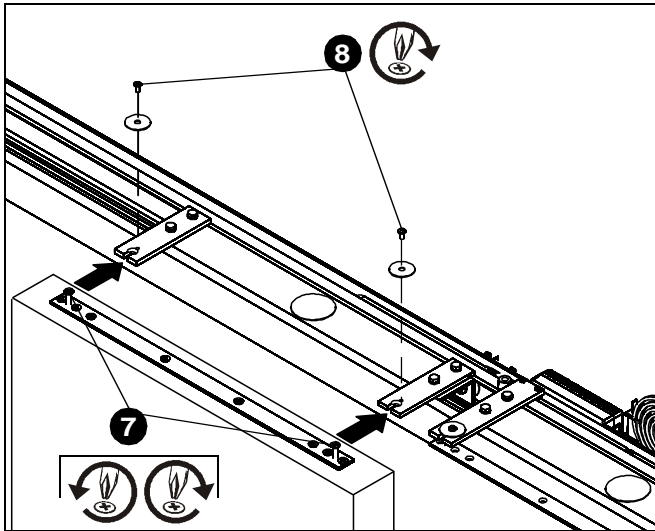

Figure 7
7. Adjust height and alignment of doors by turning the pendant bolts. (See Figure 7)
8. After adjustment is complete, replace the washers and locking screws. (See Figure 7)